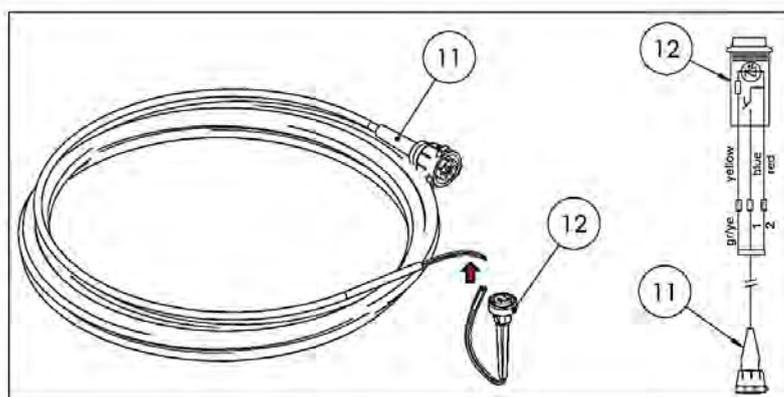

Figure 48
- Drill a 16 mm dia. hole for the cabin switch (12) in a suitable location on the dashboard.
- Snap the cabin switch (12) into the hole.
- Route the cabin switch unit cable (11) from the lifting gear to the front.
- Connect the cabin switch unit as shown in Fig. 48.